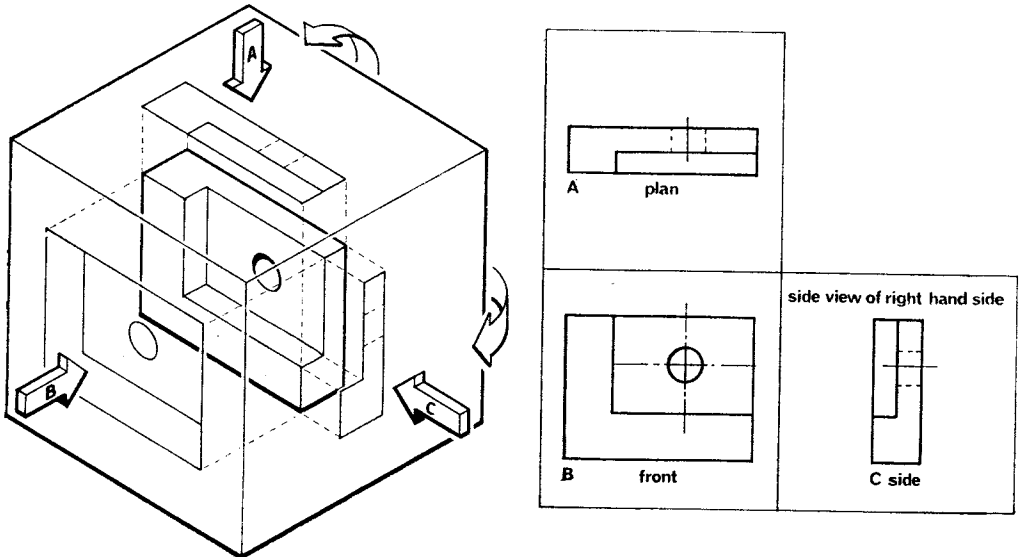

Fig. 5., Third angle projection
8. **Third angle projection.** Imagine the object suspended in a transparent box so that it can be viewed through the sides and lid (Fig. 5). The views projected on the lid and right hand-side can be hinged to the plane of the front to give the three views shown. Notice that each view is adjacent to the face which it portrays.